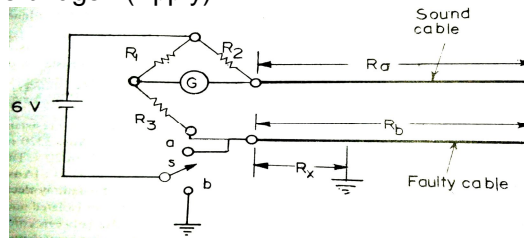

Figure 3
4. A Wheatstone bridge is connected for identify the cable fault as shown in Figure 3. When the switch is in position a, the bridge is balanced with  $R_1=1000\Omega$ ,  $R_2=100\Omega$ ,  $R_3=53\Omega$ . When switch S is in position b, the bridge is balanced with  $R_1=1000\Omega$ ,  $R_2=100\Omega$ ,  $R_3=52.9\Omega$ . if the resistance of the shorted wire is  $0.015\Omega/m$ . What is the distance between the place of fault and the bridge? (Apply)